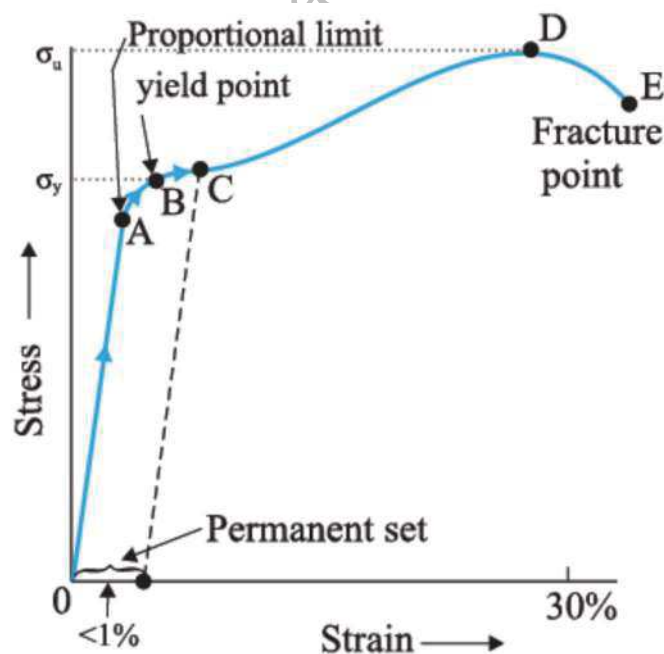

Fig. 1.3 A typical stress-strain curve for a metal (Source: NCERT book).
Typical stress strain curve for a metal is shown in Fig. 1.3. This graph is plotted between the stress (which is equal in magnitude to the applied force per unit area) and the strain produced.
- Above point B the strain increases rapidly even for a small change in the stress (The portion between B and D). In this region the body does not regain its original dimension and when the stress is made zero, the strain is not zero. Thus the material is said to have a **permanent set** and the deformation is said to be **plastic deformation** (See Fig. 1.3).
- After the point D, additional strain is produced even by a small applied force and fracture occurs at point E (See Fig. 1.3).
- The ratio of stress and strain, in the proportional region within the elastic limit of the stress-strain curve (region OA in Fig. 1.3) is called **modulus of elasticity** and is characteristic of the material.